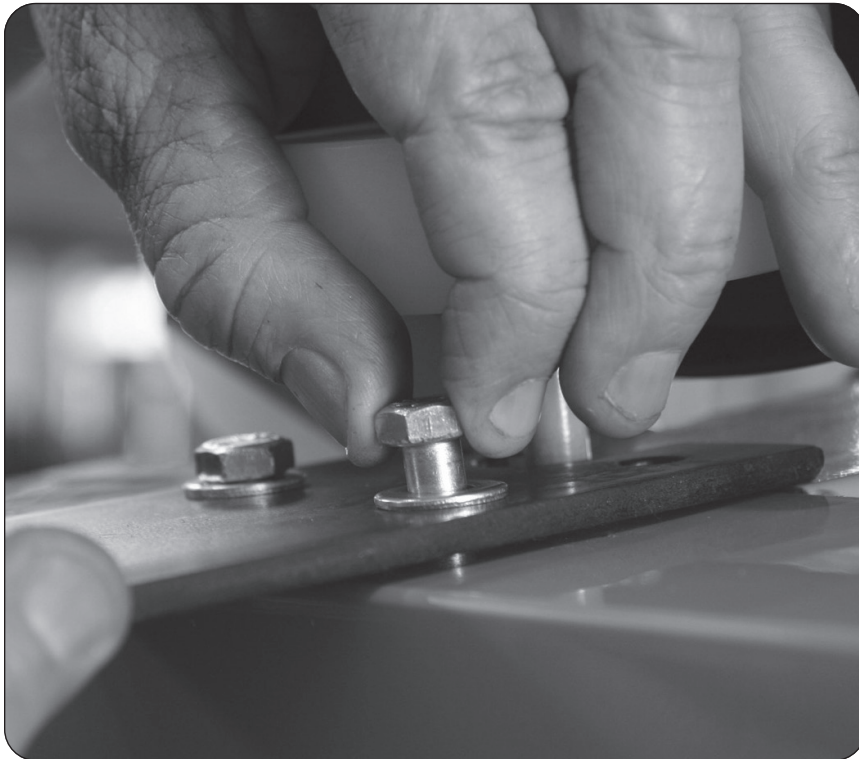
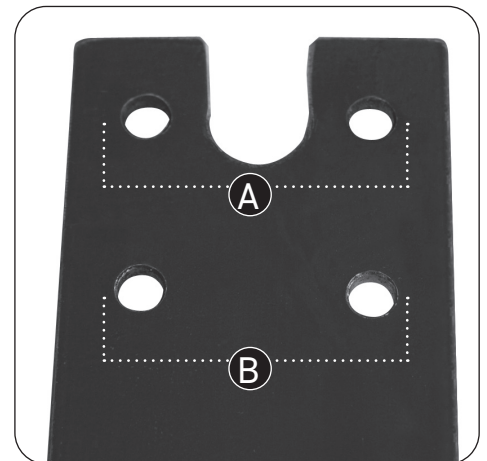

Figure 6 Attaching bracket.
Figure 7 Alignment selection
1. Taking the bracket and the two (2) mounting bolts (See Figure 6), select the proper alignment holes on the bracket for baseball or softball (See Figure 7).
2. Using the ½ inch wrenches or ratchet, attach the bracket to the team feeder (See Figure 6 below). The Team Feeder is now ready to attach to your pitching machine.